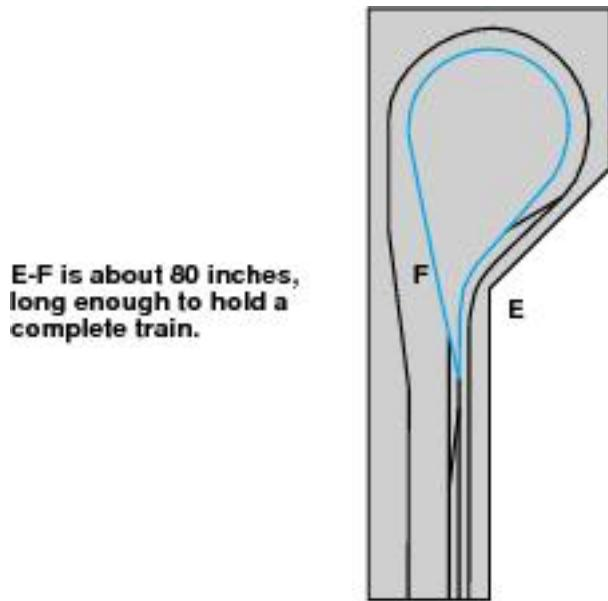

Figure 4-23: Reversing loop II Norcross Southern
**Figures 4-23 and 24** show the other reversing loop. Another possibility for the reversing section is from E to F, encompassing all the trackage in the loop and long enough to hold a complete train. Alternatively, the reversing section could be from E to G, about 180 inches long, in the mainline approach to the loop. This is long enough to hold a complete train on each side of the crossovers which